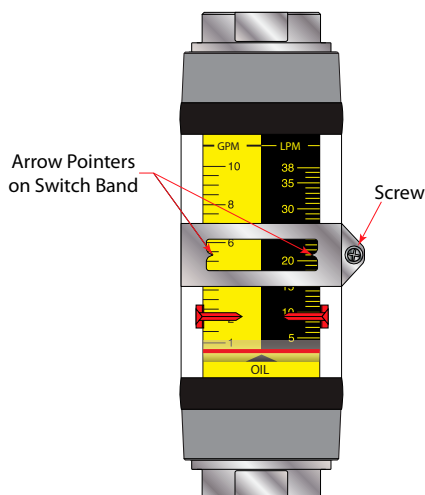

Figure 8: Reed switch adjustment (1/4" models)
1. Loosen the screw securing the switch assembly (see *Figure 8*).